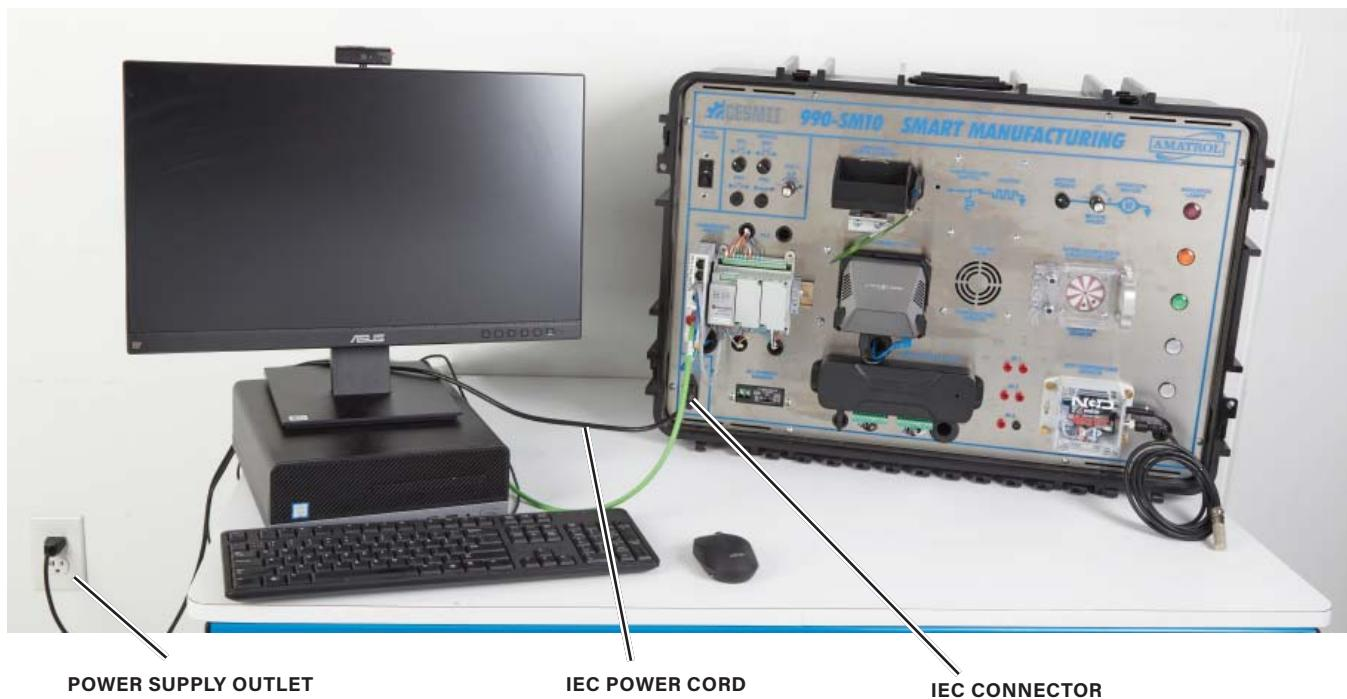

Figure 5-2. IEC Power Cord Plugged into AC In Port and Power Supply Outlet
- Connect the IEC power cord to the IEC connector on the workstation and to an AC wall outlet, as shown in figure 5-2.